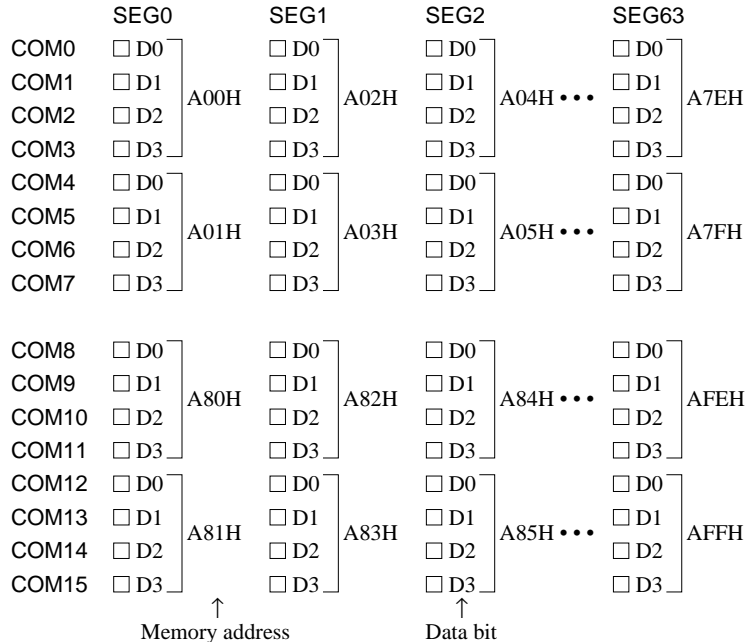

Fig. 3.6.2.1 Correspondence between display memory and LCD dot matrix
- *4 Reset (0) immediately after being read
The display memory is allocated to page 0AH (10) in the data memory area and the addresses and the data bits correspond to COM and SEG outputs as shown in Figure 3.6.2.1.